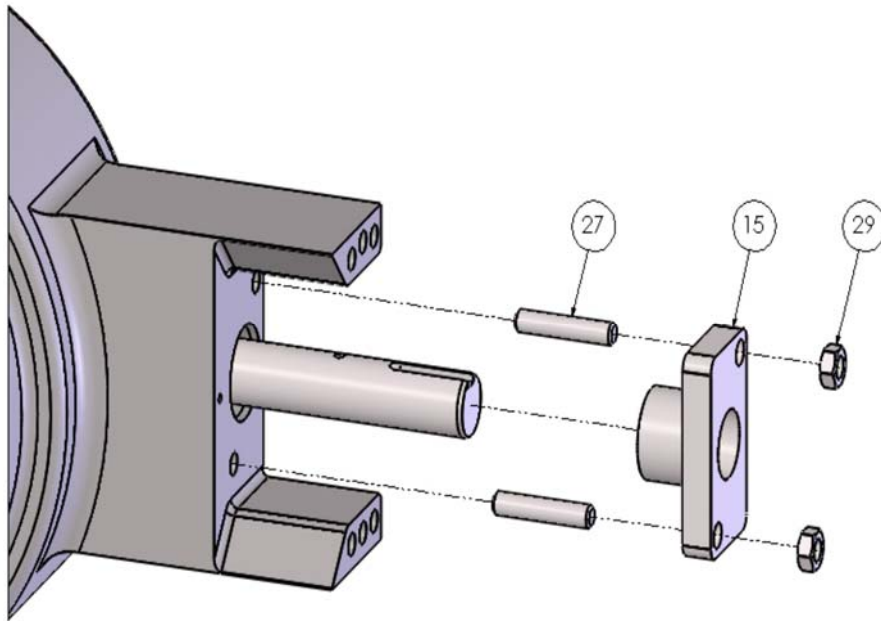

Fig. 5b
- d. Fit the gland spigot (Item 15) and gland plate (Item 16) and tighten the gland nuts (Item 29) by hand ensuring the gland plate remains parallel to the valve body (see fig. 5b)